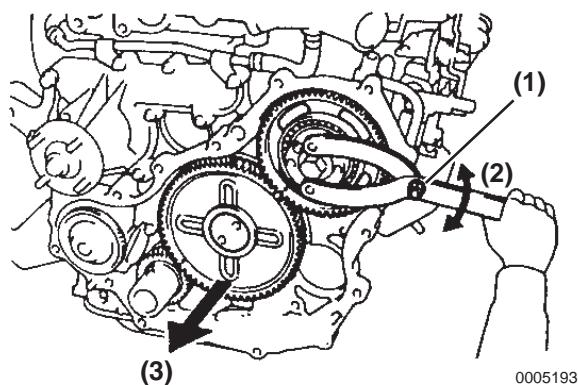

Figure 5-193
15. Using a suitable tool (**Figure 5-193, (1)**), turn the fuel injection pump drive gear (**Figure 5-193, (2)**). in both directions to loosen and remove the idler gear (**Figure 5-193, (3)**).